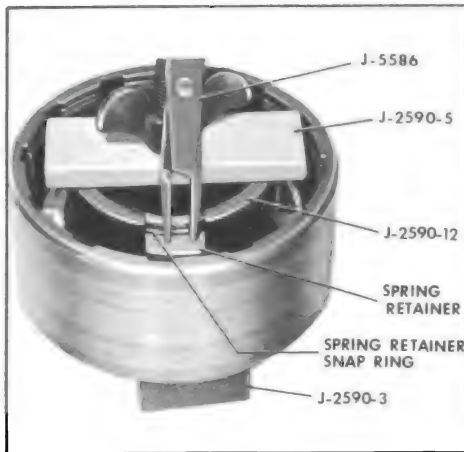

Figure 5-218
7. Using tools J-2590-3, J-2590-5, and J-2590-12 compress spring retainer. Remove snap ring. Then remove tool J-2590 and component parts, being careful that spring retainer does not catch in snap ring groove. See Figure 5-218.